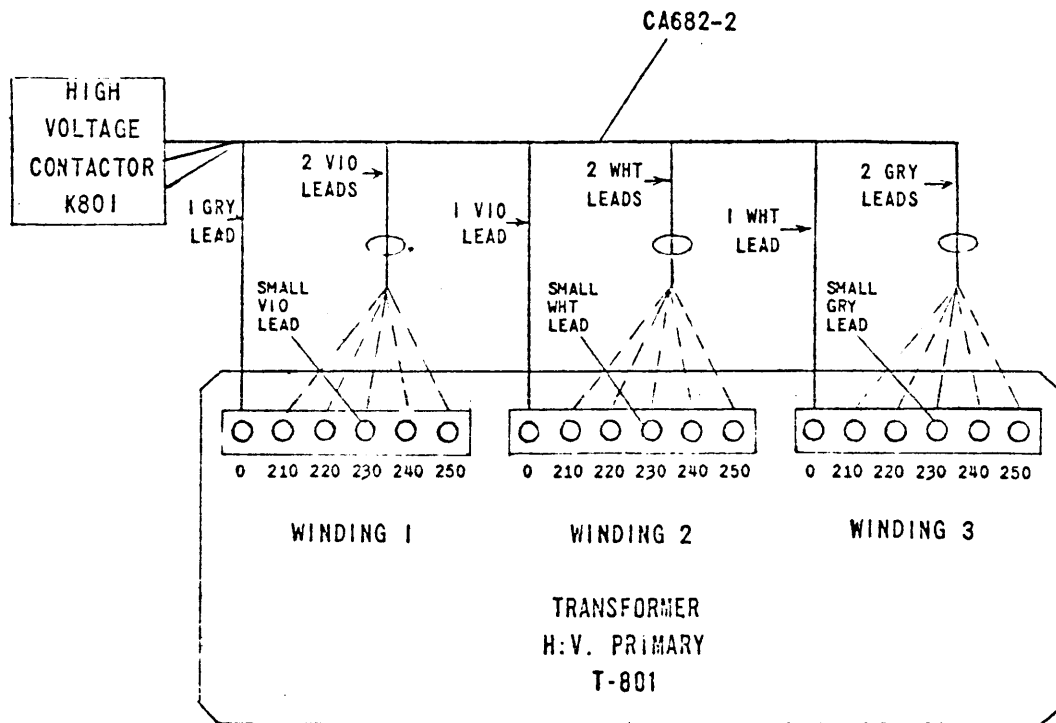

Figure 2-4. Transformer HV Primary Connections
c. Refer to figure 5-10 and position transformer in frame accordingly. Connect transformer leads in the following manner. Refer to figure 2-4 and connect CA682-2 to transformer primary terminals. Each of the three primary sections has three heavy insulated leads that must be connected between terminal "0" and the corresponding primary a-c input voltage tap (210, 220, 230, 240, and 250). The length of each heavy lead is such that they will align with the voltage tap sections to which they must be connected.
Additionally, there are small insulated leads that must be connected to the primary sections. (See figure 2-4.) Connect: